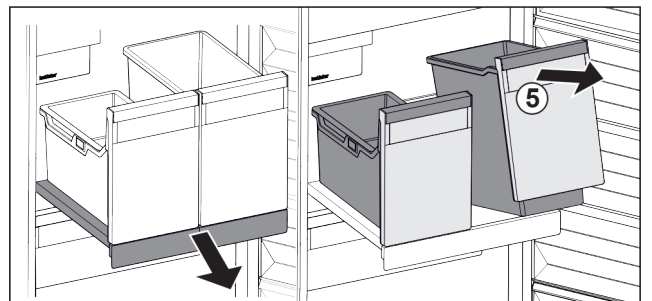

Fig. 104
- ▶ Lift the container Fig. 104 (5) at the front.